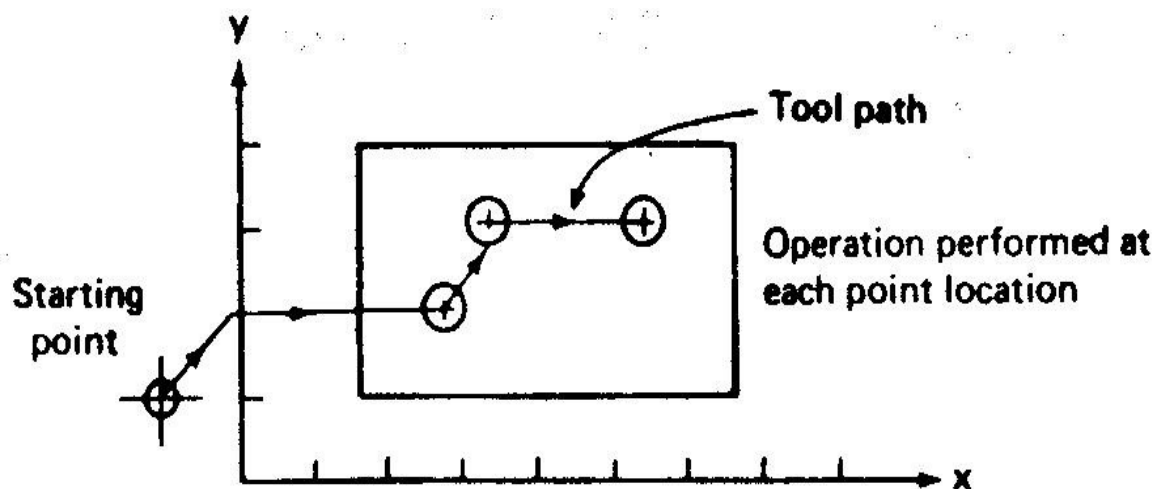

FIGURE 8.5 Point-to-point (positioning) control in NC.
- ♦ Figure 8.5 shows PTP type of control system.